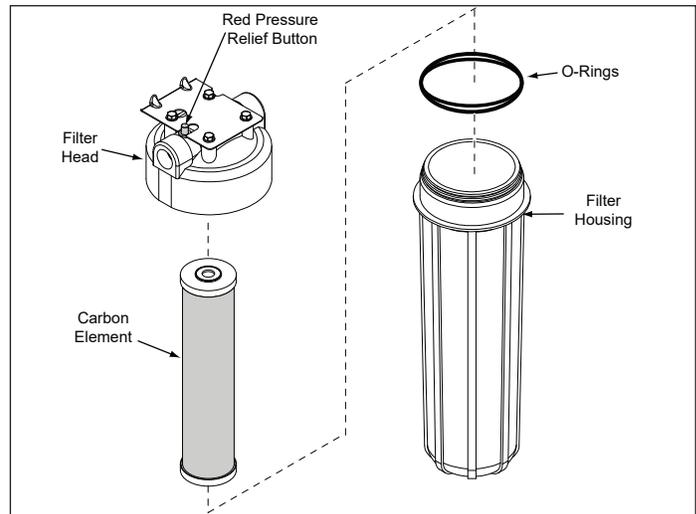

Figure 1. Replacing the Carbon Element
2. Press the Red Pressure Relief Button to depressurize the system (Figure 1).
4. Lubricate the O-rings with an approved food grade lubricant and install onto the housing (Figure 1).
6. Screw the Filter Housing into the Head until it stops (Figure 1). Use a Filter Wrench, if necessary.